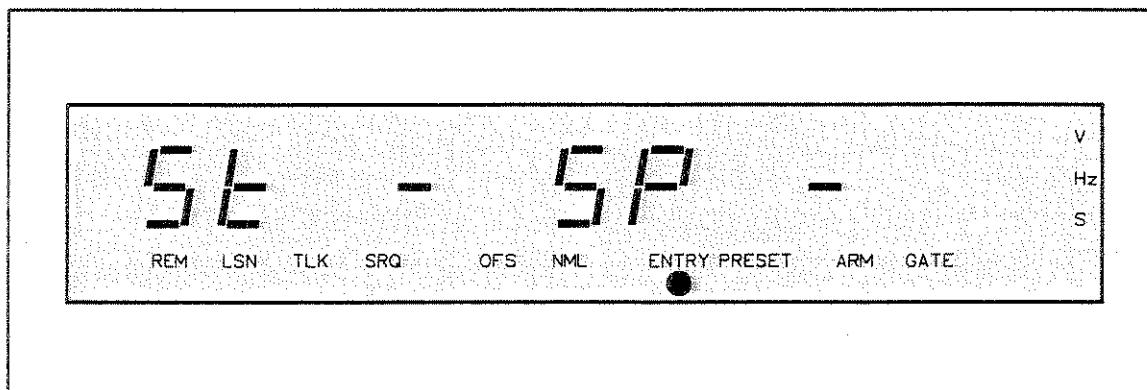
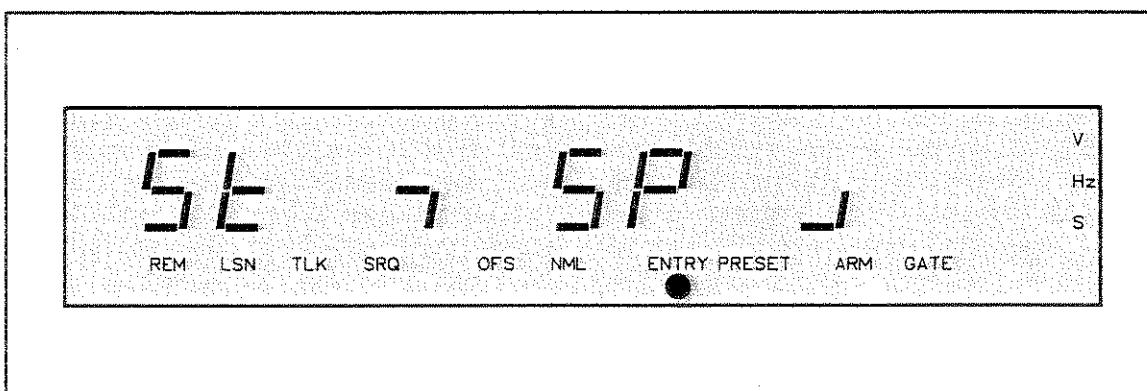

Figure 3-34. EXTERNAL ARM SELECT Entry Mode Display, Arming Off
Figure 3-35. EXTERNAL ARM SELECT Display, Arming States Selected
3-196. External arming can be used to specify the start and/or stop of a measurement, by a signal that is not directly involved in the measurement. When external arming is enabled, a signal must be connected to the ARM input connector to arm the gate to open and/or close. Pressing the EXT ARM SELECT key displays the arming status, shown in Figure 3-34, and allows the START ARM (open gate) and/or STOP ARM (close gate) states to be changed.
3-197. The arming status is represented as "St" (START ARM) and "SP" (STOP ARM). The states are defined by "—" (arming off), shown in Figure 3-34; and " \neg " (arming set on negative slope), and " J " (arming set on positive slope) as shown Figure 3-35 slope). The channel A SLOPE key controls the START ARM, and the channel B SLOPE key controls the STOP ARM.
2. The counter displays, “St” for start arm, “SP” for stop arm, and the current start/stop arm states (see *Figure 3-35*).
3. The ENTRY light flashes, indicating the arming states may be changed (see *Figure 3-35*).
Figure 3-35 shows the EXT ARM SELECT entry mode display, with the START ARM set negative, and the STOP ARM set positive.